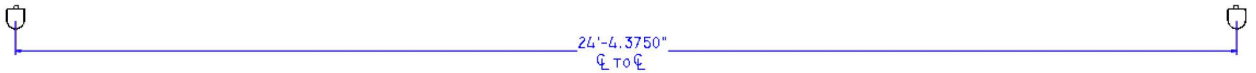
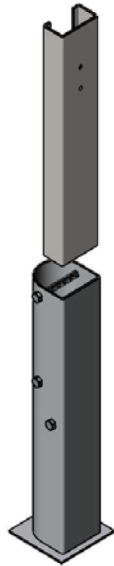

Figure 2
Figure 3
1. Start by laying out the ground sleeves according to the layout, orientate parallel to the field end line (Fig. 2). Each of the front ground sleeves comes as shown (Fig. 3), the flat edge is to face away from the field. Excavate holes for the footings and set the concrete forms. Exact footing requirements will vary based on local building codes and site specific soils reports.